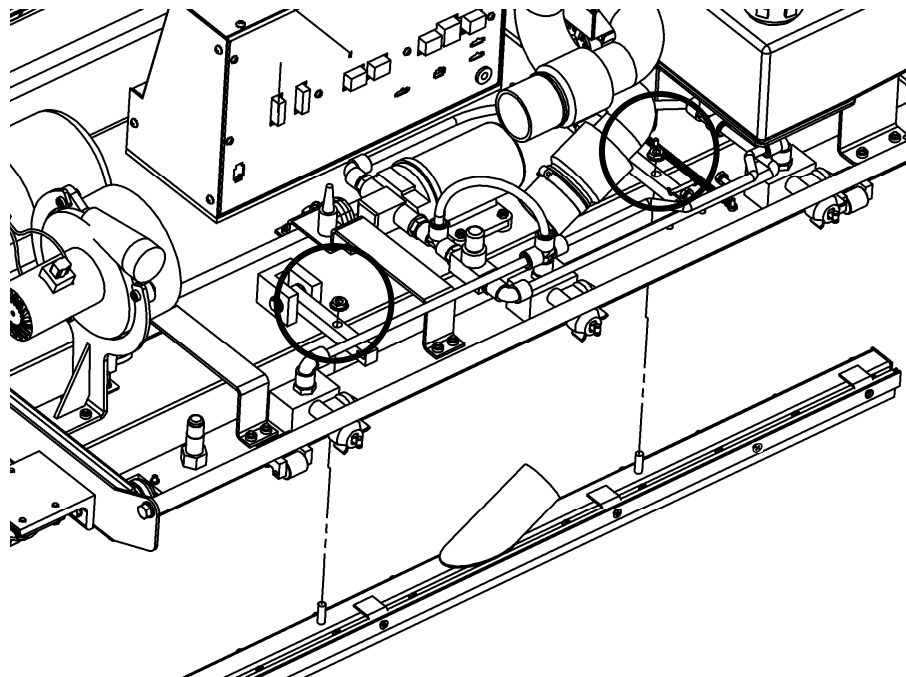

Figure 3-18
3. Remove the two 5/16 nuts to release the Vac Head from the machine, as shown in Figure 3-18, and remove the Vac Head from the **bottom** of the machine.